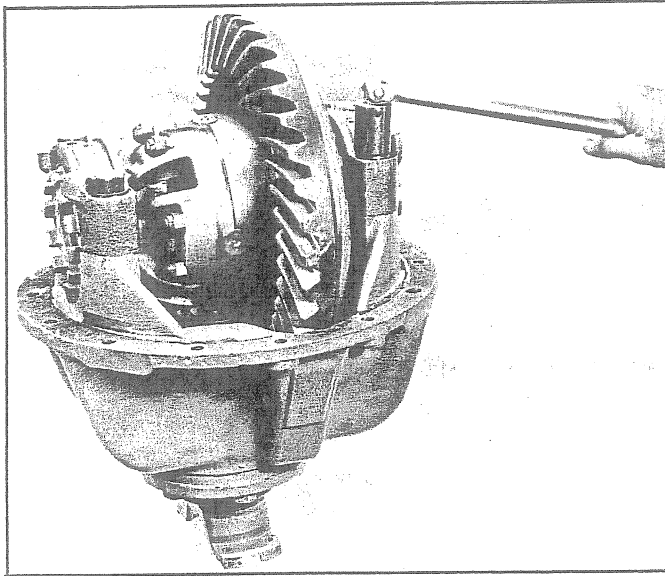

Fig. 66 - Tightening Bolts Prior to Adjusting Bearing Preload
18. Tighten bearing cap retaining bolts sufficiently to retain adjusting nuts as shown in Fig. 66.